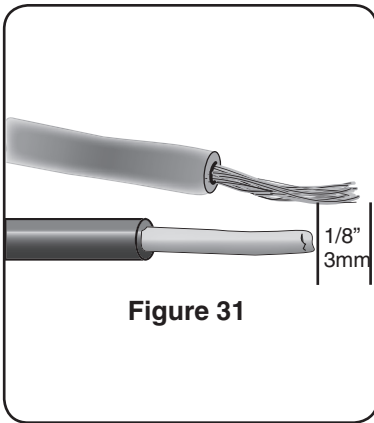

Figure 31
- Extend the dishwasher's stranded wires 1/8" (3mm) beyond the power supply cable's solid wires, as shown in **Figure 31**.